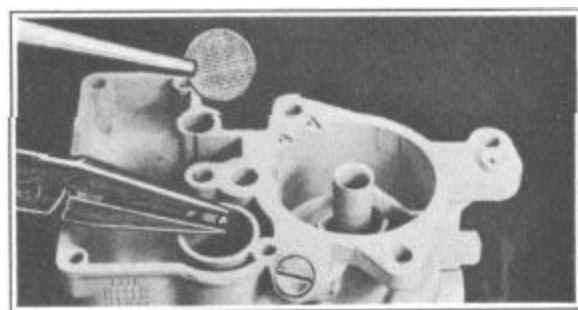

FIGURE 39
13. Install pump intake check ball and pump strainer, Figure 39.